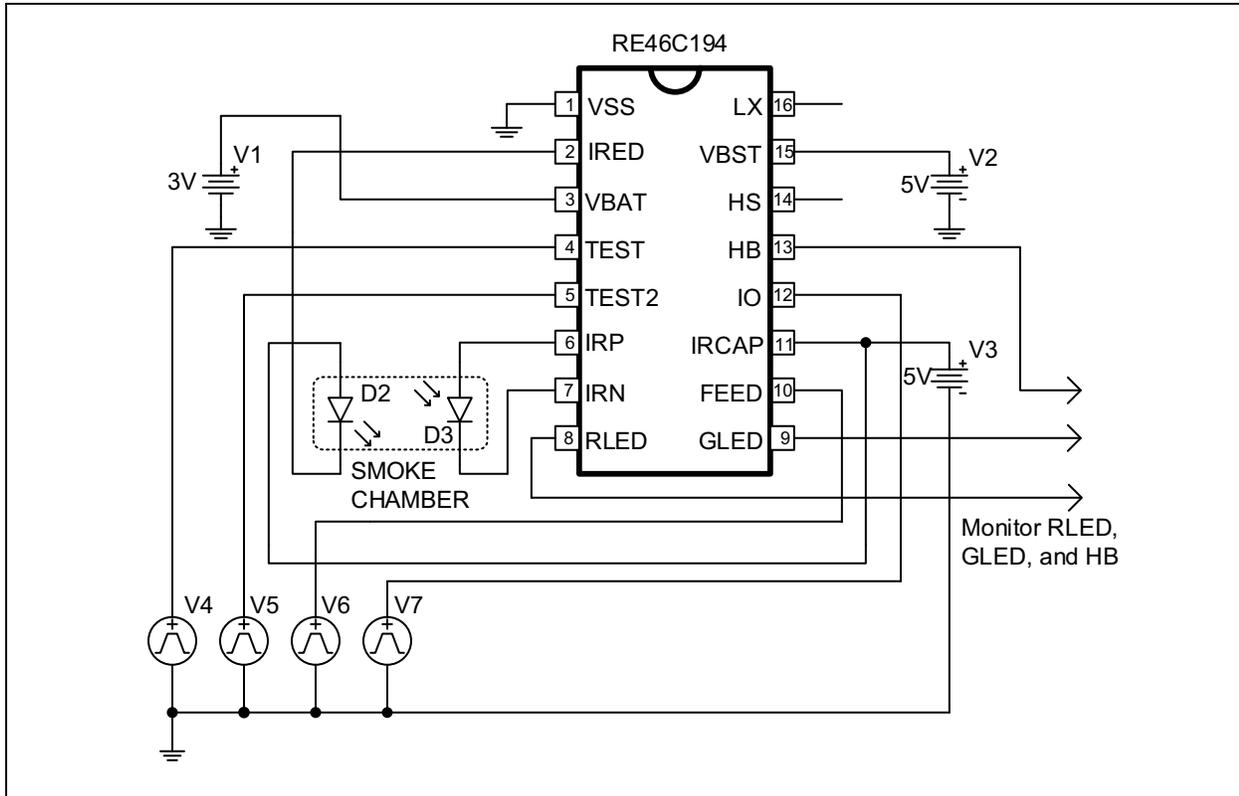

FIGURE 4-3: Nominal Application Circuit for Programming RE46C194.
1. Power up with bias conditions as shown in Figure 4-3 or Figure 4-5.
1. Power up with the bias conditions shown in Figure 4-3 or Figure 4-5. VBST should be connected to 5V through a diode, so VBST can enter High Boost operation.
1. Power up with the bias conditions shown in Figure 4-3 or Figure 4-5.